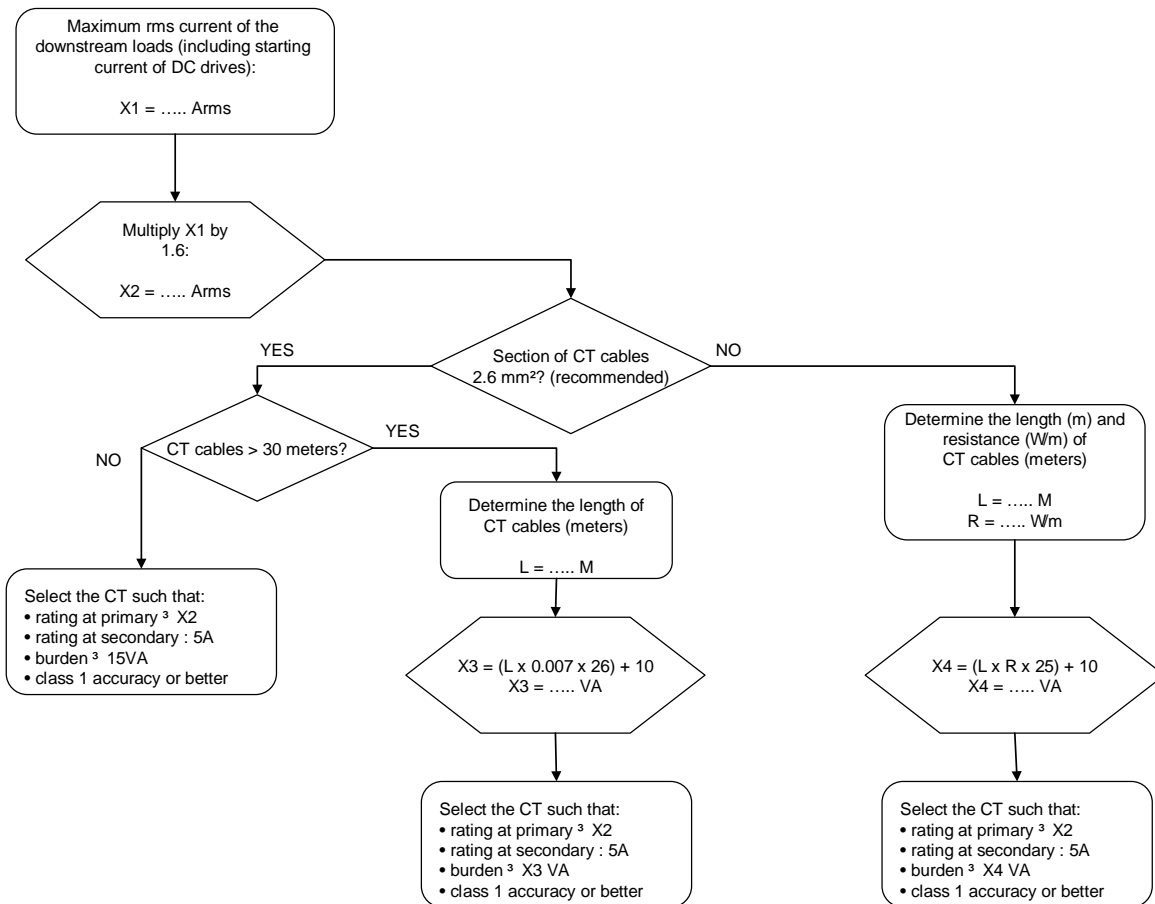

Figure 24: Flow chart for CT determination
- 15 VA burden for up to 30 meters with 2.5 mm² cable. For longer cables lengths refer to Figure 24 here below. In case of the CT is shared with other loads, the VA burden shall be adapted accordingly.